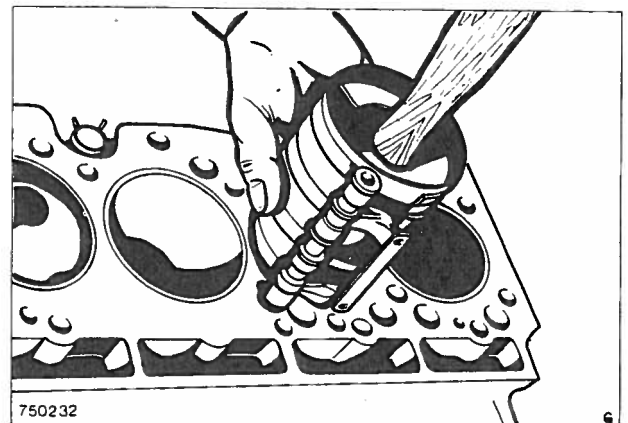

Fig. 29 Fitting the pistons to the bores
- Using a piston ring clamp as shown in Fig. 29, insert each piston assembly into the cylinder bore with the 'FRONT' markings to the front of the cylinder, taking care not to damage the bores. If possible, cover the exposed thread on the cap bolt with tubing (nylon) during this operation. Fit the big-end bearing liners and the caps and tighten the new self locking nuts to the specified torque (see Specifications).